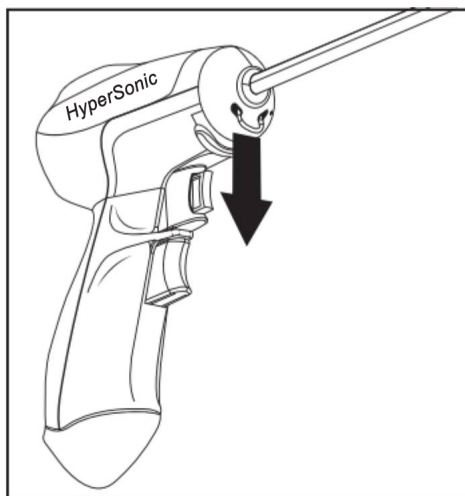

Figure 14. Pulling Down Release Pin.
2. Using a hemostat or other device, pull down and remove the release pin located below the nose cone to disengage the shaft assembly from the Delivery Device handle (Figure 14).